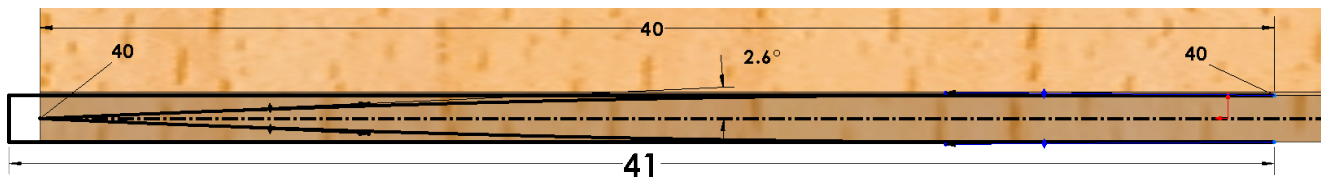

Fig. 31
Step 20. Click **Smart Dimension**  (S) on the Sketch toolbar.
Step 21. Add **41 dimension**, **Fig. 31**.